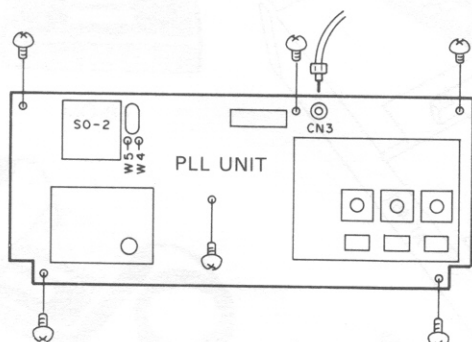

Fig. 4
4. Disconnect coaxial connector CN3 of the PLL unit. Remove the screws holding the PC board (Fig. 4) and lift the board.
5. Cut jumpers W4 and W5.(Fig. 4)
6. Solder the SO-2 to the indicated area. (Fig. 4)
7. Insert coaxial connector CN3 and tighten the screws holding the PC board.(Fig. 4)